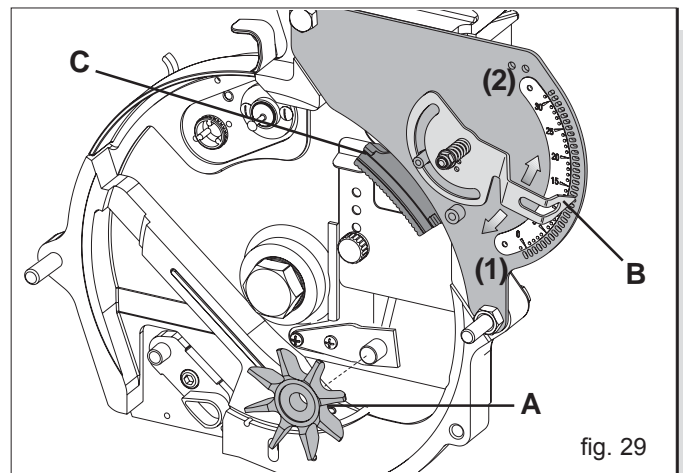

fig. 29
The Manufacturer provides a (disassembled) seed agitator for each distributor, as part of the standard supply (A, Fig. 29).
When the indicator (B Fig. 29) is moved, it commands a cursor (C Fig. 29), which slightly touches the plate near the holes, causing the excess seeds to fall.
The selector is adjusted at each seed and plate change, towards the lower numbers for small seeds (1 Fig. 29) and vice versa for big seeds (2).